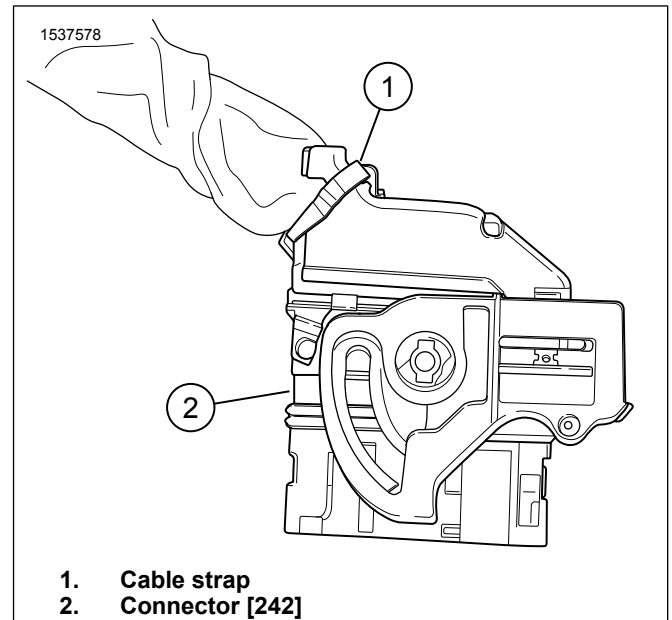
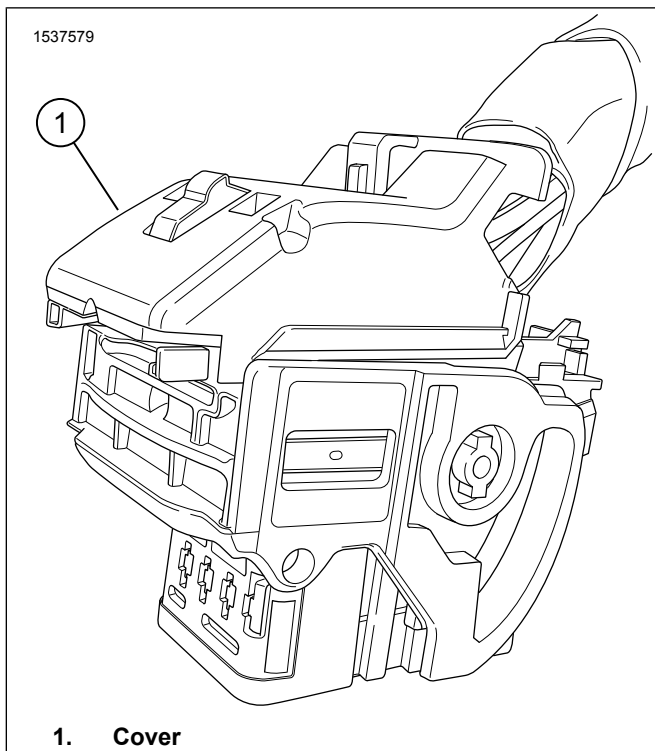
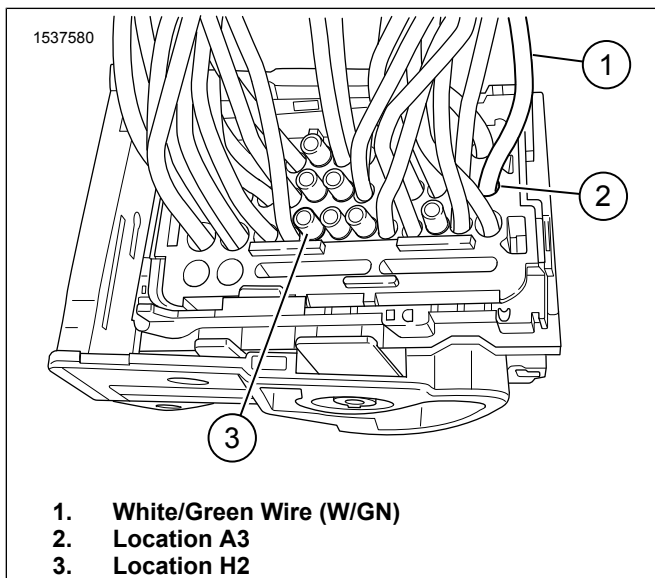

Figure 18. Connector [242]
Figure 19. Connector [242] Cover
Figure 20. White/Green Wire (W/GN)
1. See Figure 18. Locate and disconnect connector [242].
2. Remove and discard cable strap (1).
3. See Figure 19. Remove connector cover.
- b. Slide cover (1) off connector body.
4. See Figure 20. Verify position of wire 180 (W/GN) (1).
- a. Location A3 (2).
5. Verify plug in location H2 (3).
6. Remove plug from location H2 (3). Save for later use.
7. Remove (W/GN) wire from A3 (2).
8. Install (W/GN) wire in to H2 (3).
9. Install plug in to A3 (2).